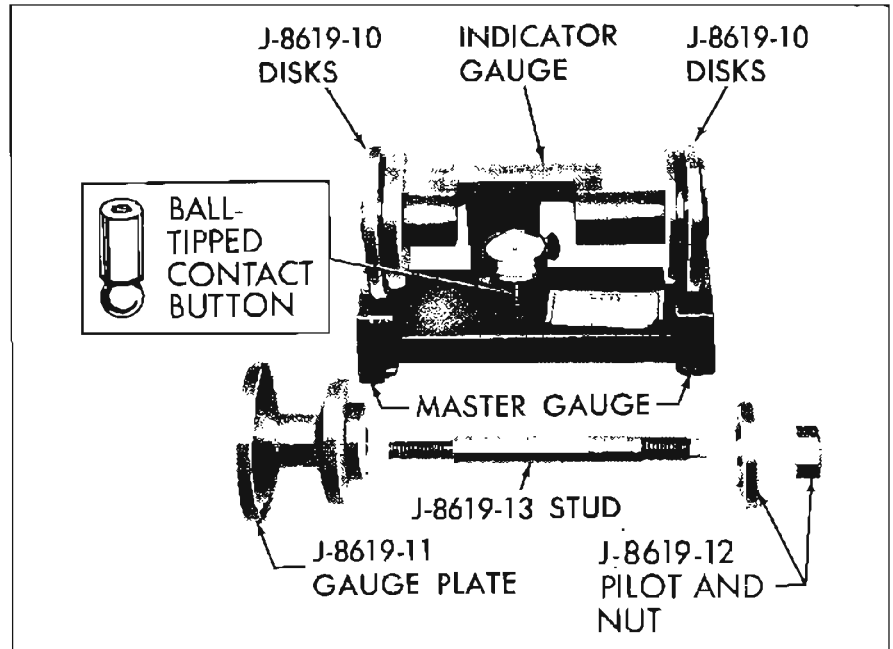

Figure 6-19—Pinion Setting Gauge
Disks, (1) J-8619-11 Gauge Plate, J-8619-12 Pilot and Nut with J-8619-13 Stud. See Figure 6-19. Although production pinions are marked, neither production nor service pinions have a gauging tooth. The pinion setting gauge provides in effect a nominal or zero pinion as a gauging reference.
2. Install the J-8619-10 Disks on the indicator gauge. Install the small ball-tipped contact button on the stem of the dial indicator and mount the dial indicator on the indicator gauge. See Figure 6-19.